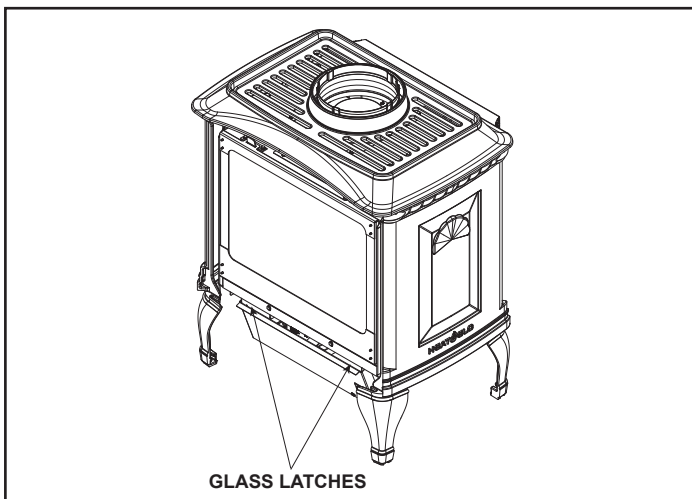

Figure 6.12 Remove Glass Frame
11. Release the glass latches on the lower corners of the appliance and remove the glass assembly. See Figure 6.12.